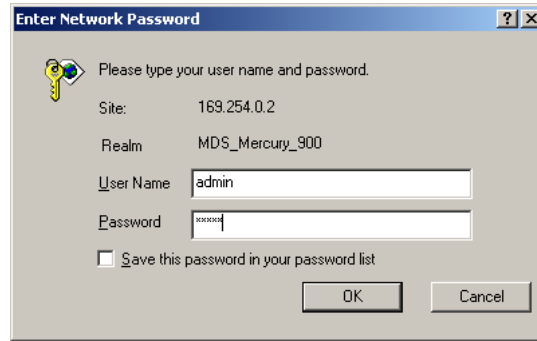

Figure 3-7. Log-in Screen when using a Web Browser
4. A log-in screen is displayed (Figure 3-7 on Page 40) where you enter a user name and password to access the unit's menu system. Note that the default entries are made in *lower case*. (Default User Name: **admin**; Default Password: **admin**)